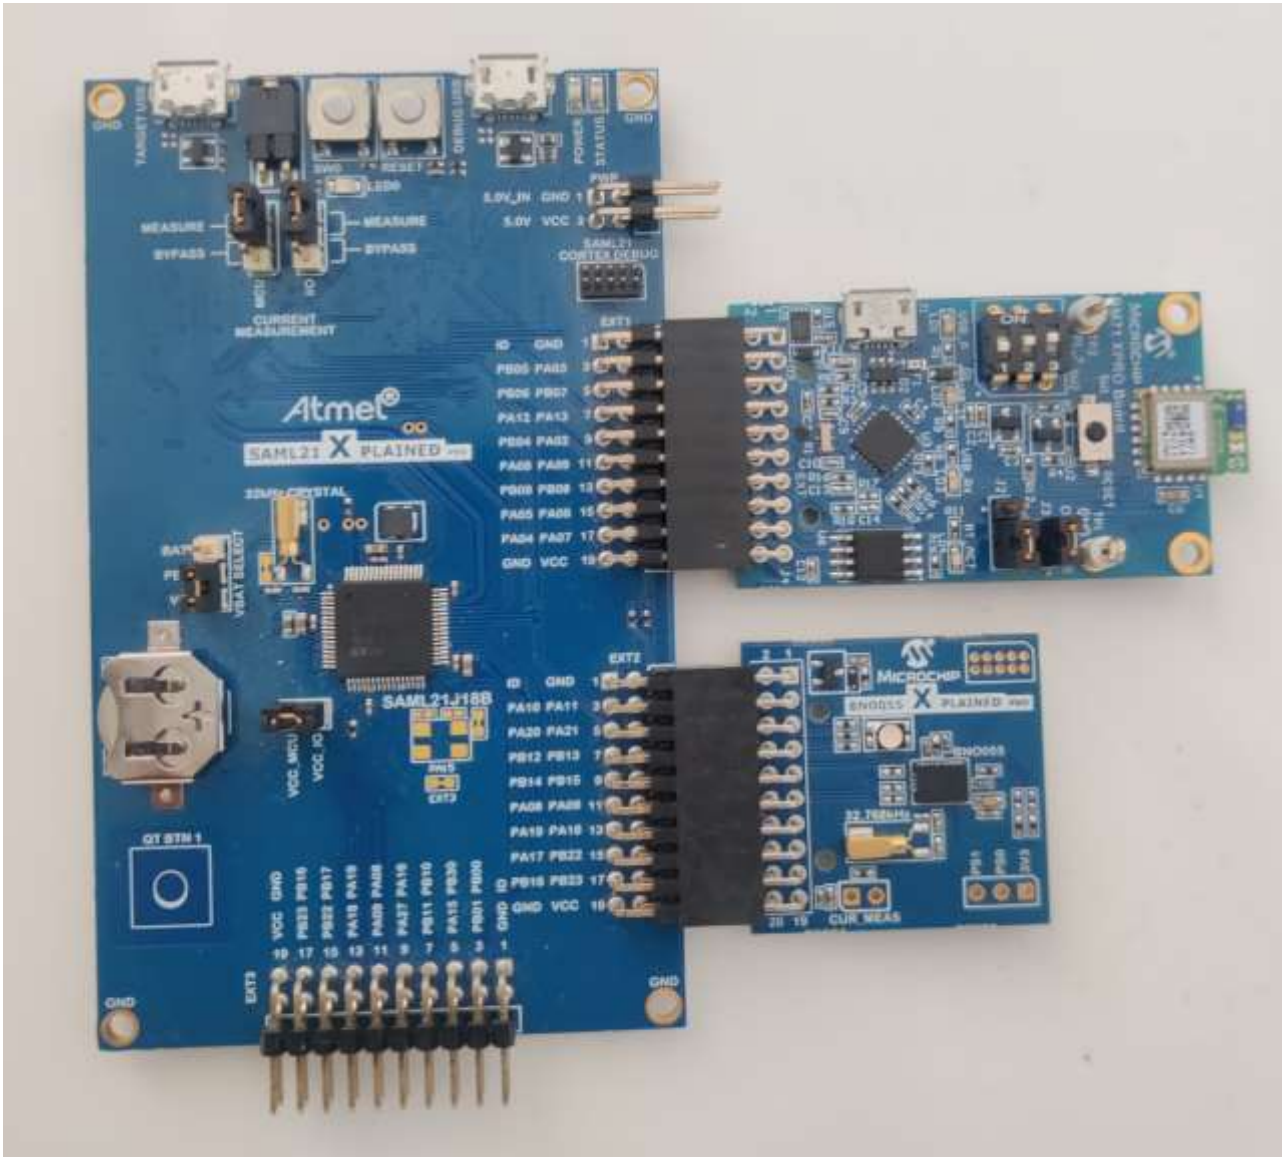

Figure 1: SAML21 Xplained Pro with BM71-XPRO and BNO055 Xplained PRO Board
1. Plug in the BM71-XPro board into EXT1 of SAML21 Xplained Pro board as shown in Figure 1.
2. BNO055 Xplained PRO Board is used in this demo. Plug-in the BNO055 board into the EXT2 of SAML21 Xplained Pro as shown in Figure 1.